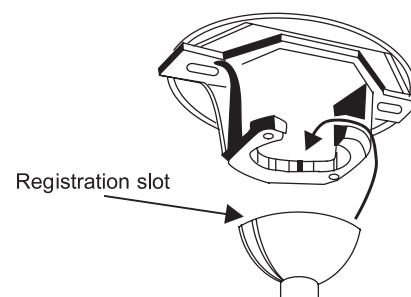

Figure 8
**Step 8.** Place the downrod ball into the hanger bracket socket. (Fig. 8)